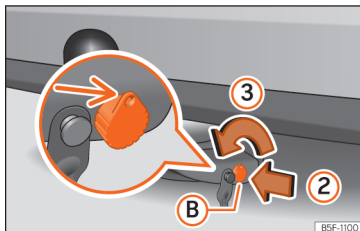

Fig. 272 Releasing the lock.
- Insert key (B) into the lock in the direction of arrow (2) » Fig. 272.
- Turn the key in the direction of arrow (3) until the part of the key with the holes is facing upwards.